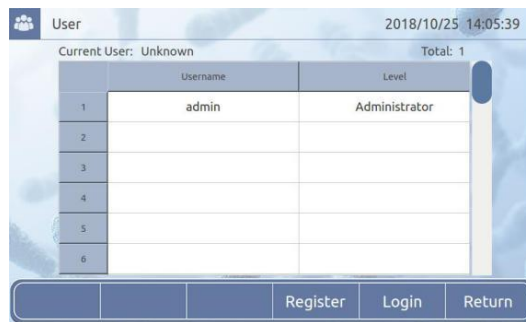

Figure 10
- a. Click the “User” icon in the main interface to enter the user list of the user management interface (see Figure 10).